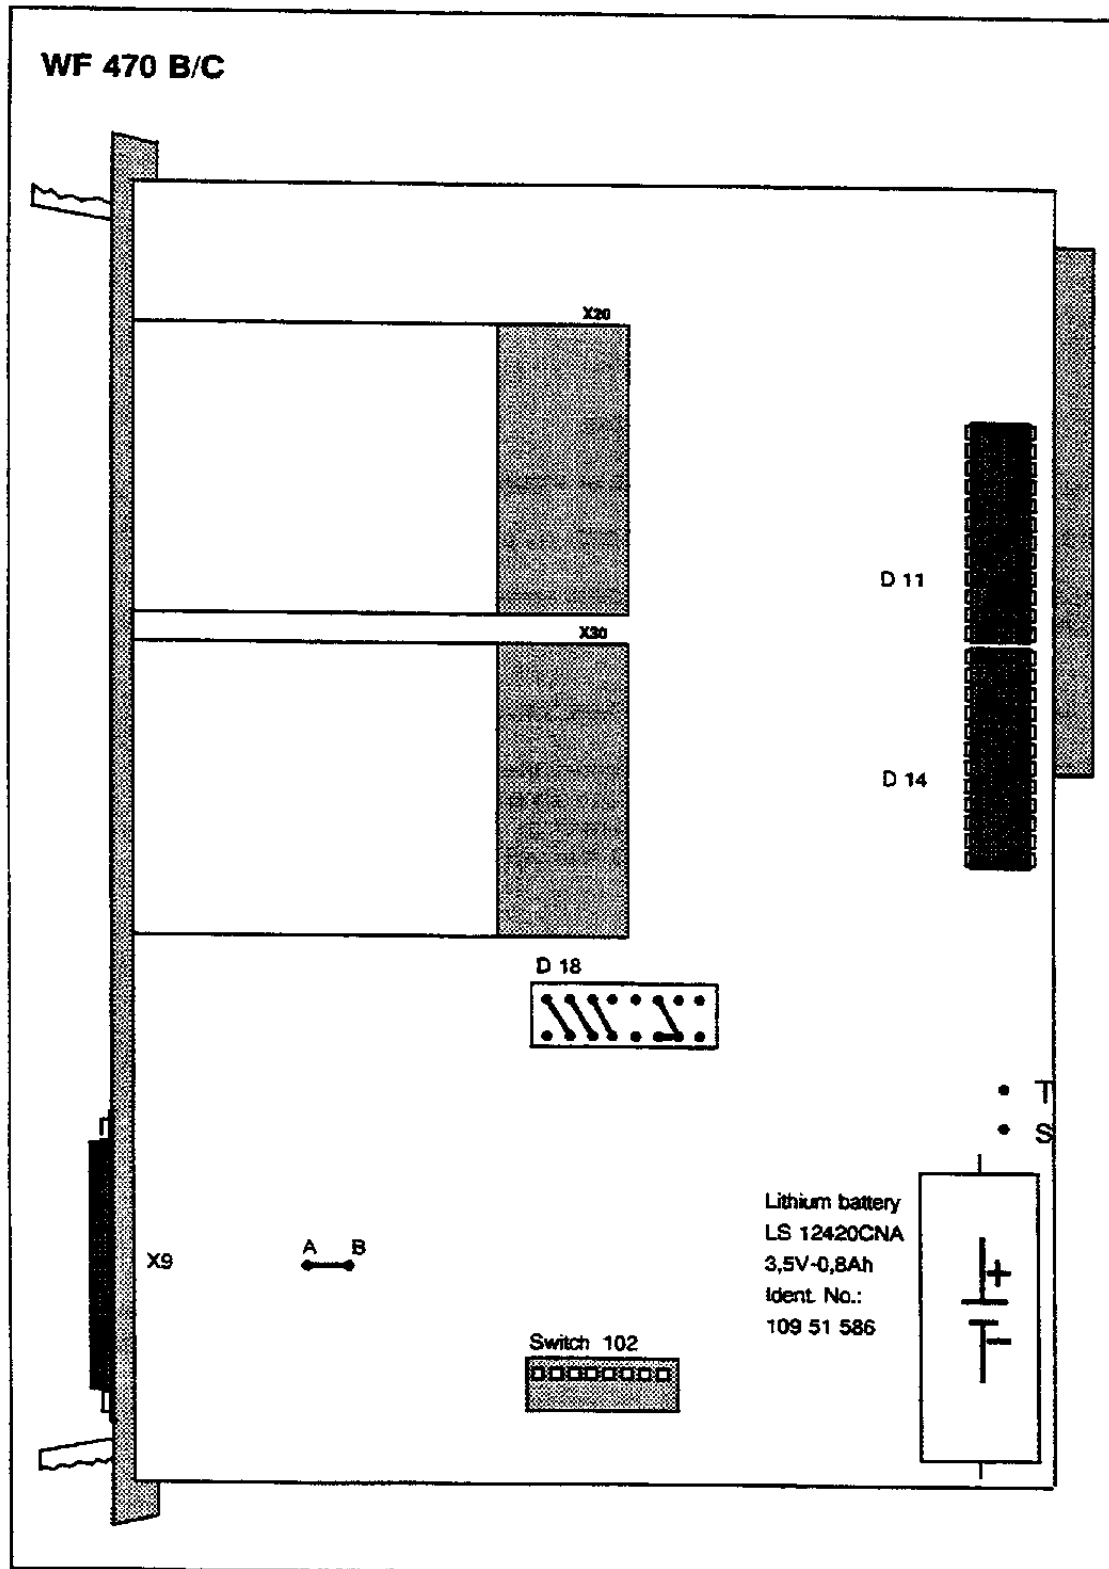

Fig. 4.2 Switch settings on the WF 470 B/C extension board.
In order to incorporate additional features on the WF 470, the size of the EPROM modules has been increased. From V 2.1, two EPROMs type 27512 are now used. The setting of the links on link block 11 shown in Fig 4.2 is for these new EPROMs.
**Details of settings for fig 4.2:**